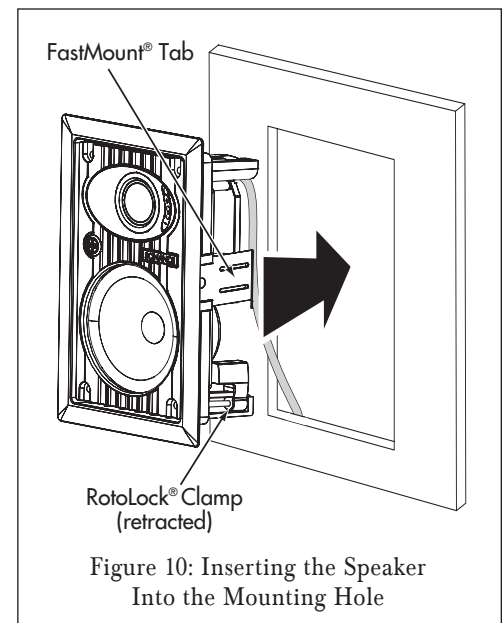

Figure 10: Inserting the Speaker
5. Make sure all the RotoLock clamps are in the full clockwise position so that they are tucked within the mounting hole's border. Insert the speaker into the hole in the wall (*Figure 10*). The RotoLock system can accommodate a maximum wall material thickness of 1¼".